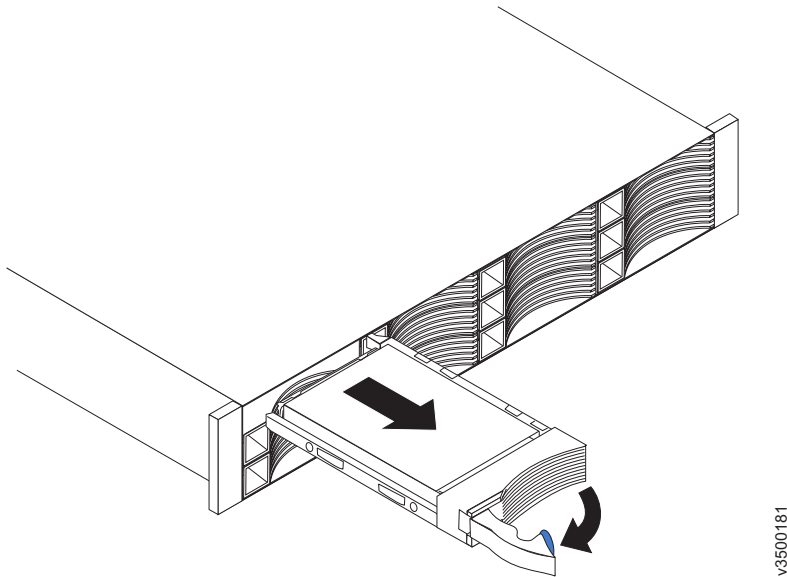

Figure 92. Unlocking and removing a 3.5-inch drive from its slot
5. Pull out the tray handle to the open position (see Figure 92 on page 318).